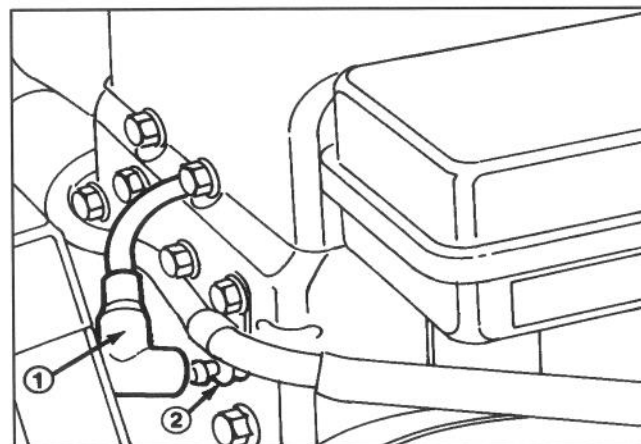

Figure 18
- Pull wire off spark plug and remove plug from cylinder head (Fig. 18).